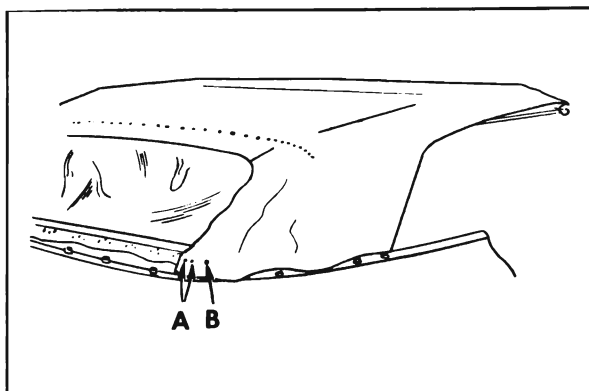

Figure 7-45—Tacking Top Material
35. Using previously marked lines (ends of trim stick) as locating reference, tack top material to rear and rear quarter trim sticks. "A" in Figure 7-45 shows top material installed to rear trim stick at base of each weatherflap.